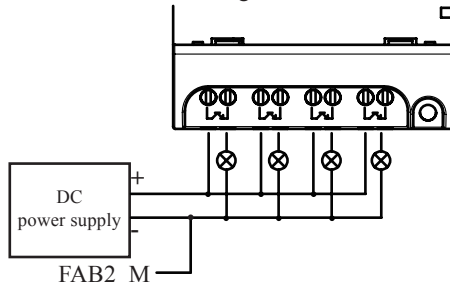

Fig 2.10 Transistor Output(D type)
1) Type D connection is shown in Fig 2.10